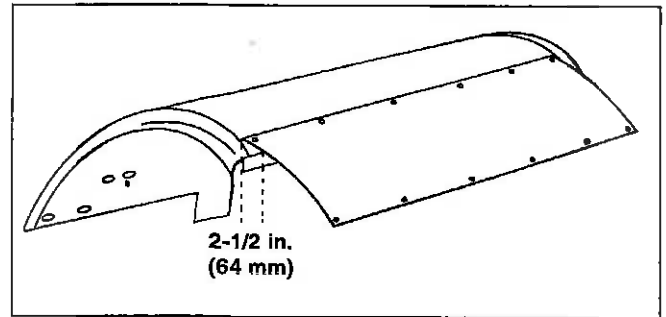

figure 57
1. Clamp the extension plate to the front edge of the hood, centered from left to right. The top edge of the extension plate must be 2 1/2 in. (64 mm) from the bend in the hood (figure 57).